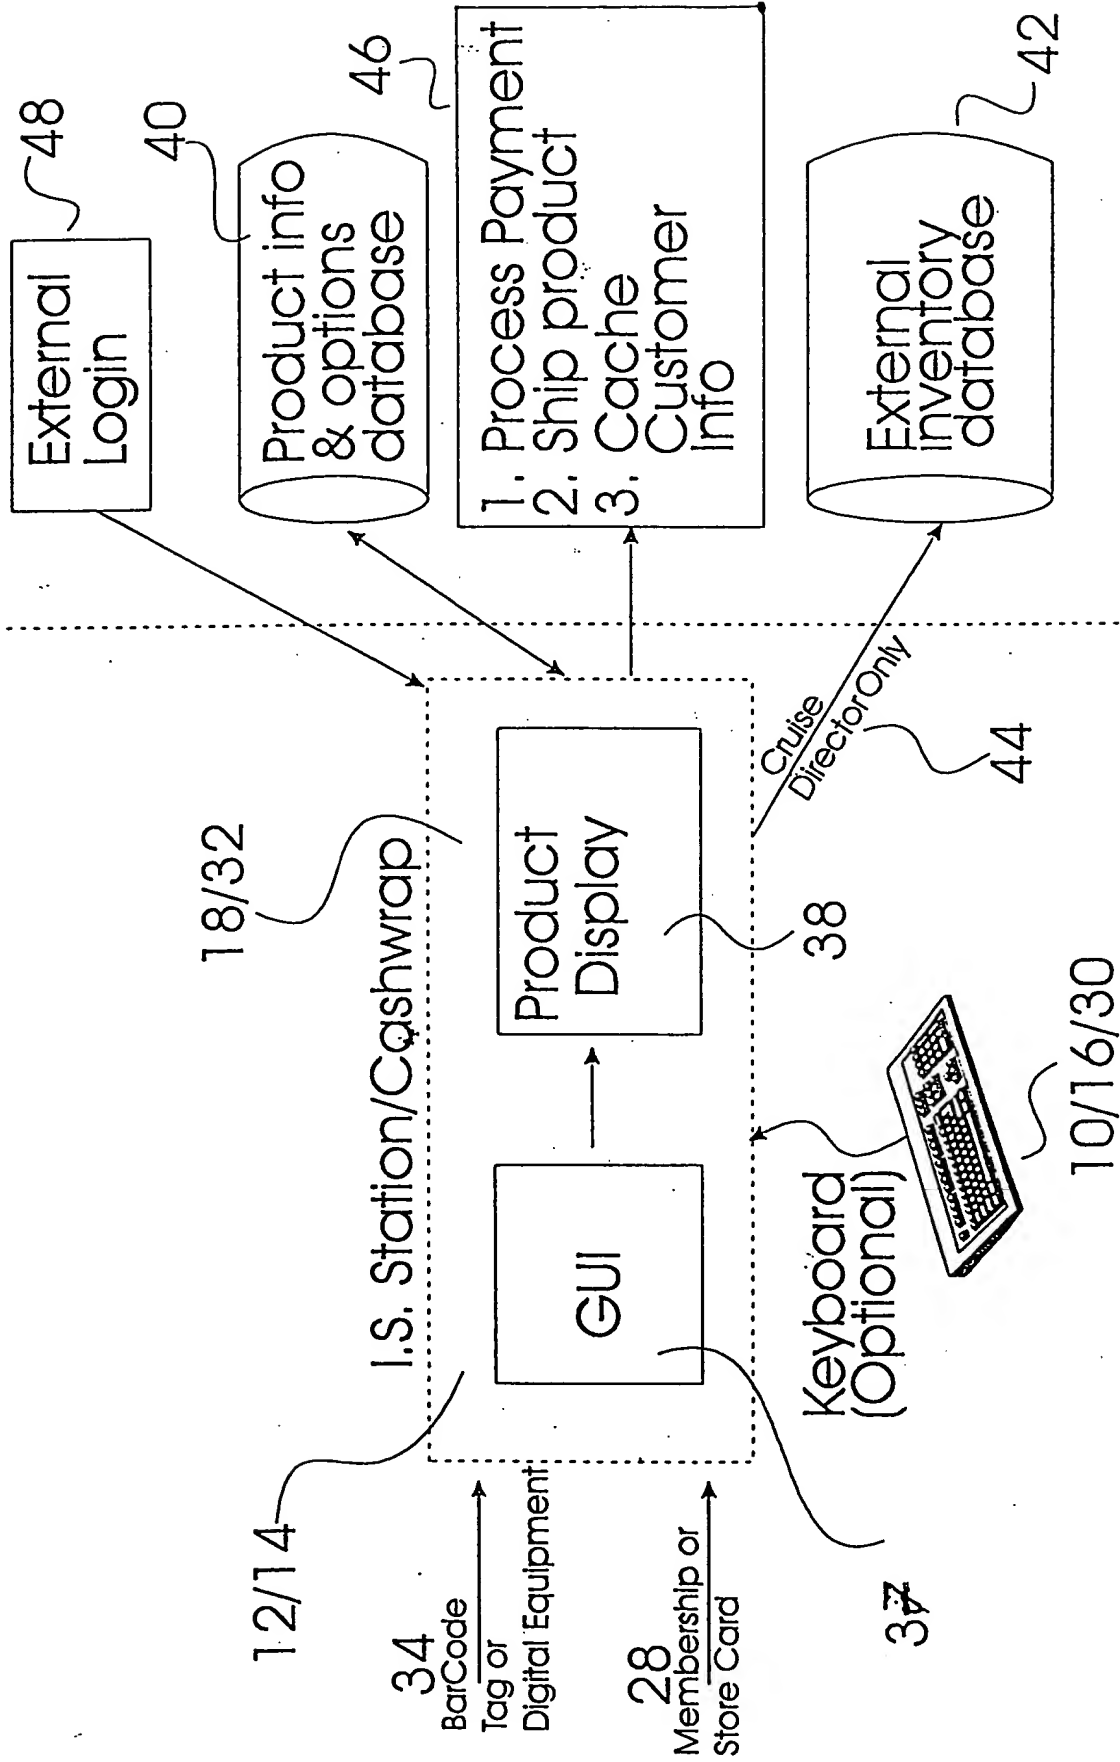

Fig. 6
FIG. 6 is a block diagram of a system for processing a transaction. The system includes a user interface (12/14) for a station/cashwrap (18/32). The user interface includes a GUI (34) and a product display (38). The GUI is connected to a keyboard (36) which is optional. The product display is connected to a keyboard (36) which is optional. The system also includes an external login (48) and a product info & options database (40). The product info & options database is connected to the GUI (34) and the product display (38). The system also includes a process payment module (42) which includes a ship product module (44) and a cache customer info module (46). The process payment module is connected to the GUI (34) and the product display (38). The system also includes an external inventory database (42) which is connected to the process payment module (42).